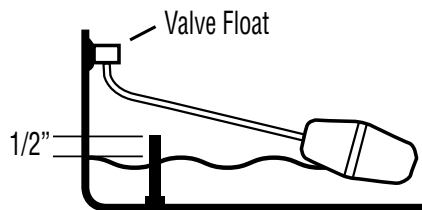

FIGURE 11
3. Turn on water and adjust float valve by bending the rod (see Figure 11).